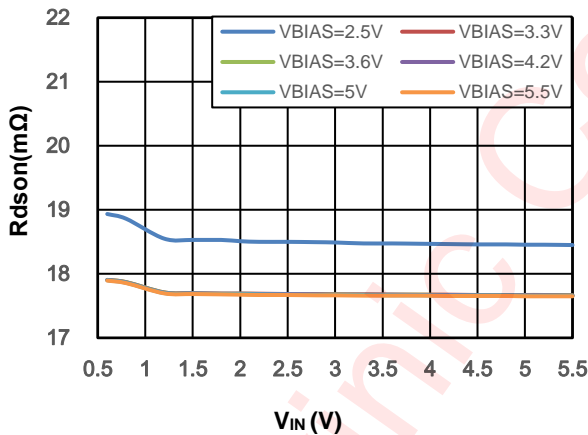
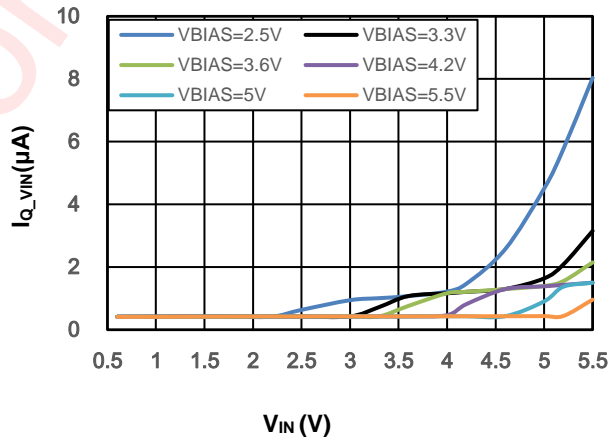

Figure 27 Rdson vs. V_{IN}(I_{OUT}=-200mA)
Figure28 I_{Q_VIN} vs. V_{IN}, No load
For optimal R_{ON} and I_Q performance, make sure $V_{IN} \leq V_{BIAS}$. If $V_{IN} > V_{BIAS}$, the device is still functional. In this condition, R_{ON} will not change greatly, as shown in Figure 27, but it exhibits I_{Q_VIN} greater than what is listed in the Electrical Characteristics table. See Figure 28 for an example of a typical device, and notice the increasing I_{Q_VIN} as V_{IN} exceeds V_{BIAS} voltage. Make sure to never exceed the maximum voltage rating for V_{IN} and V_{BIAS}.
2. The AW35141A integrates an up to 6A NMOS FET, and the PCB design rules must be respected to properly evacuate the heat out of the silicon. By increasing PCB area, especially around IN and OUT pins, the $R_{\theta JA}$ of the package can be decreased, allowing higher power dissipation. Power lines will flow large current, please route them on PCB as straight, wide and short as possible, as in figure 27.